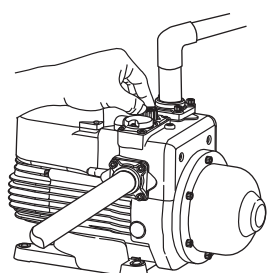

Fig. 8
- 10.1 Before starting, the pump must be primed. For installation with no inlet pressure, please follow the procedure as shown in Fig. 8. (There are water outlets in both vertical and horizontal directions, please use them according to your needs.)